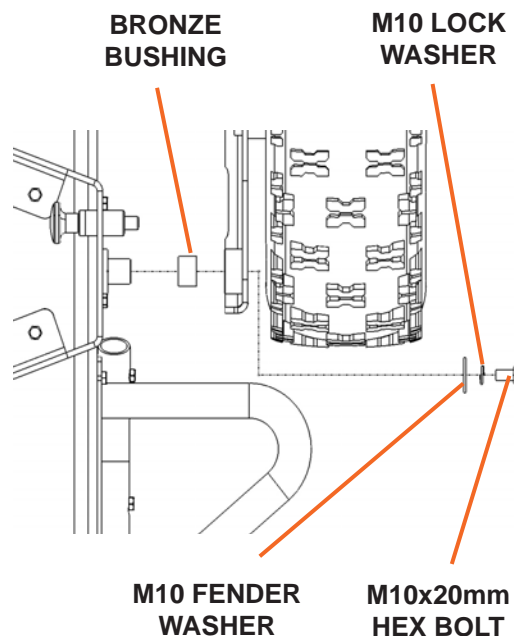

Figure 1
4. Attach height adjustment brackets with attached wheels using hardware supplied (see Figure 1).